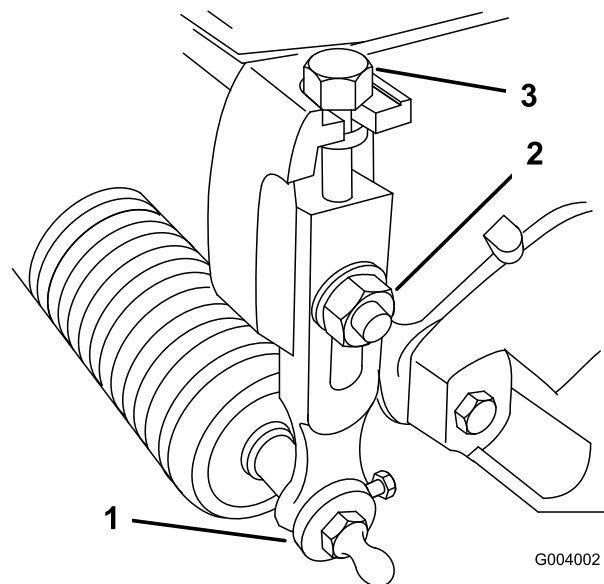

Figure 55
1. Loosen locknuts securing height-of-cut arms to cutting unit side plates (Figure 55).